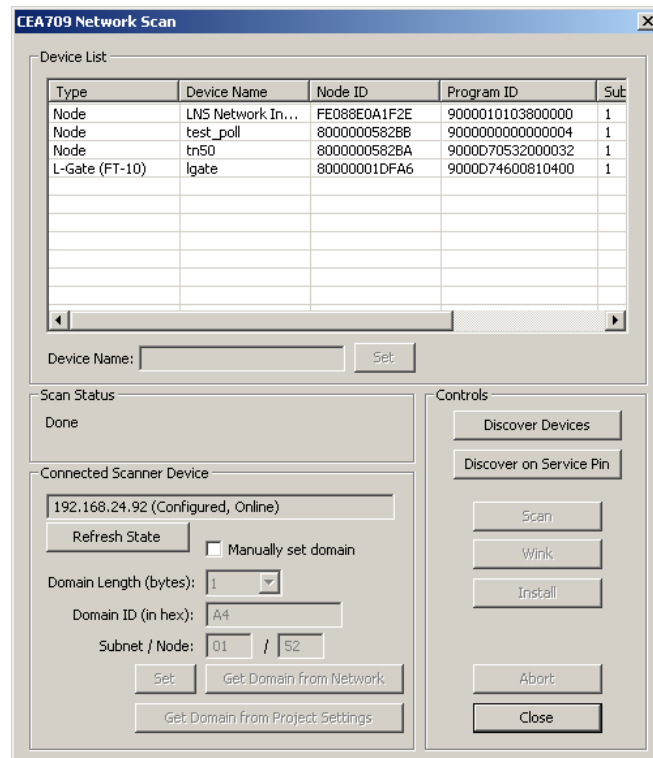

Figure 76: CEA-709 network scan dialog.
- Right-click on that folder and select **Scan CEA709/852 Network....** This opens the CEA709/852 Network Scan dialog as shown in Figure 76.